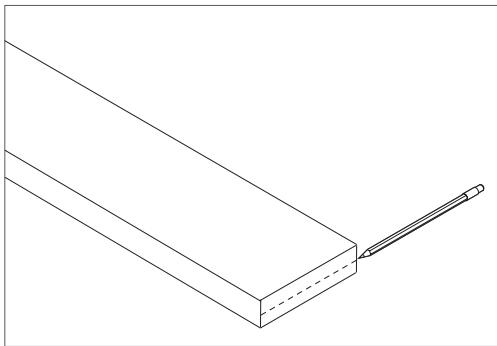

Figure 2
2. Using a tape measure and pencil, draw a vertical line on the end of the slat, ensuring the line on the slat is in line with the slot in the metal stile (Figure 2).